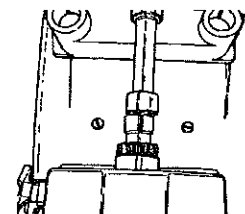
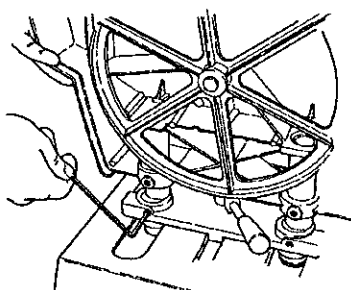
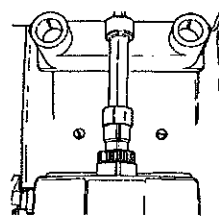
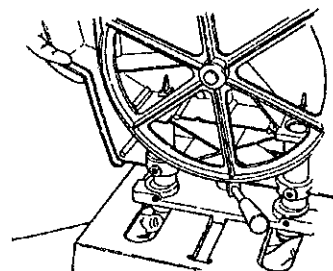

Fig.B-5
Fig.B-8
Fig.B-7
Fig.B-6
9. Typical misalignment is shown in Fig.B-5. To align the Bandsaw horizontally (whether there are one or two persons-see above note), reach under the Power Station base and twist both eccentric tubes, shown in Fig.B-6, until the coupler is horizontally aligned with the drive shaft hub. After the Bandsaw is horizontally aligned as in Fig.B-7, tighten the carriage setscrews (22). See Fig.B-8.